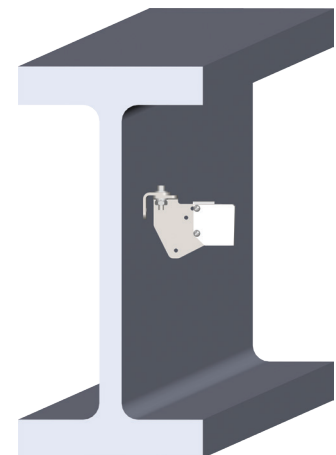

Figure 4-2
4.1.1 Mount sensor in desired location and make adjustments appropriate to your specific assembly. See **Figure 4-2**.